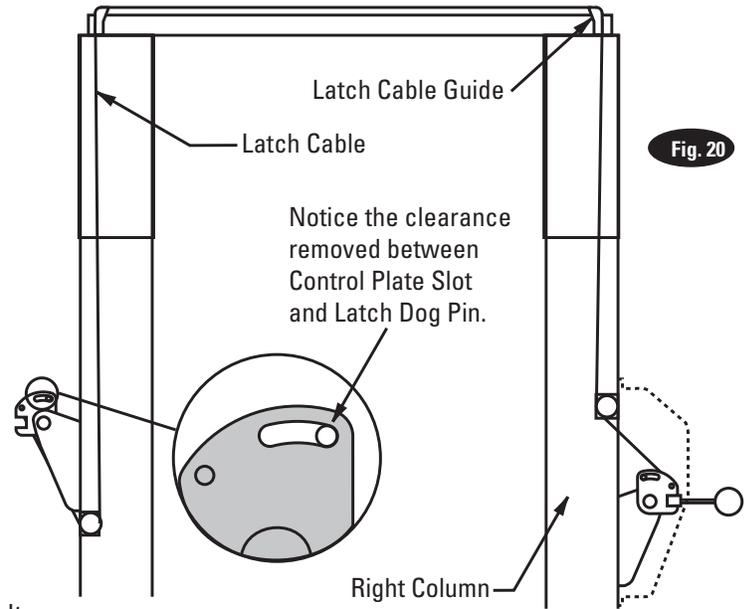
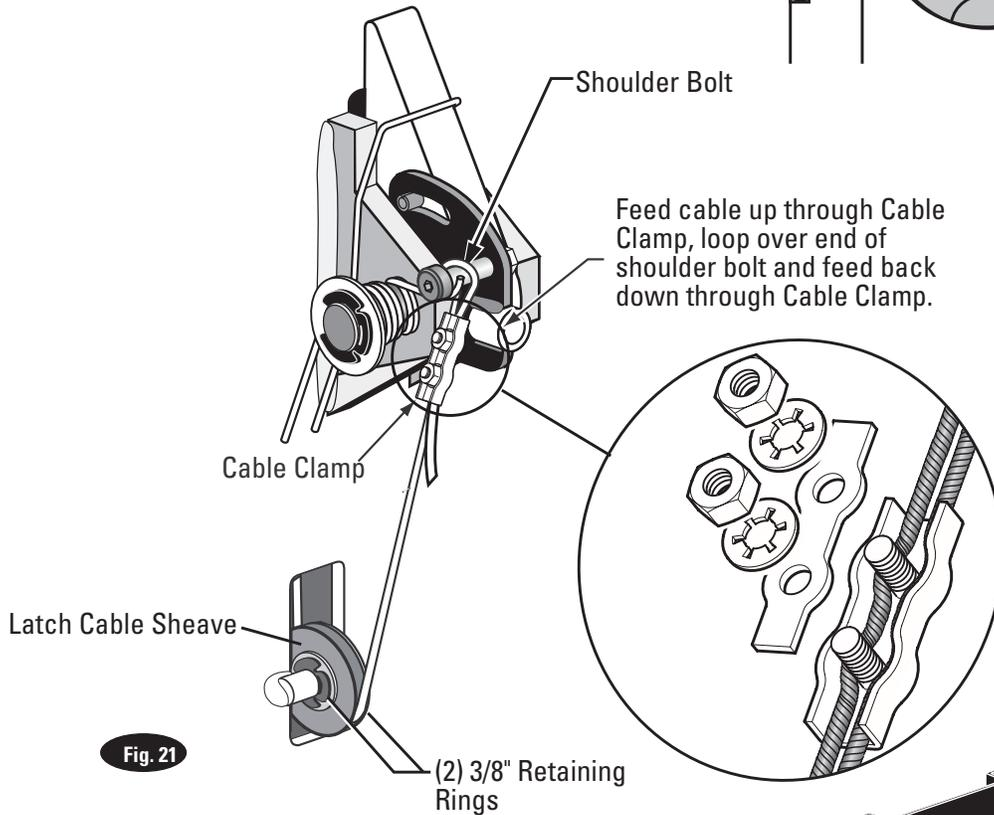

Fig. 20
Fig. 21
- E) Route cable up inside column and through the latch cable guide, Fig. 18a & Fig. 20.
- F) Continue routing cable to the left column latch cable guide, Fig. 18a & Fig. 20, routing the cable through the left column latch cable guide, Fig. 18a.
- G) Bring the cable down inside the left column and feed the end of the cable through the lower latch cable sheave slot so that the cable is now back outside the column, Fig. 21.
- H) Route cable under the bottom side of the latch cable sheave, Fig. 21.
- J) Insert cable in cable clamp along one side, loop around shoulder screw and back down, inserting cable along other side of cable clamp, Fig. 21. Place top back on clamp, barely tightening.
- K) Next, pull the control plate down, Fig. 20 & Fig. 21, to eliminate any clearance between the control plate slot and the latch dog pin, Fig. 20.
17. Electrical: Have a certified electrician run appropriate power supply to motor, Fig. 20 & 21. Size wire for 20 amp circuit. See Motor Operating Data Table.
IMPORTANT: Use separate circuit for each power unit. Protect each circuit with time delay fuse or circuit breaker. For single phase 208-230V, use 20 amp fuse. Three phase 208-240V, use 20 amp fuse. For three phase 400V and above, use 10 amp fuse. For three phase 380V use 16 amp fuse. For wiring see Fig. 20 & Fig. 21. All wiring must comply with NEC and all local electrical codes.